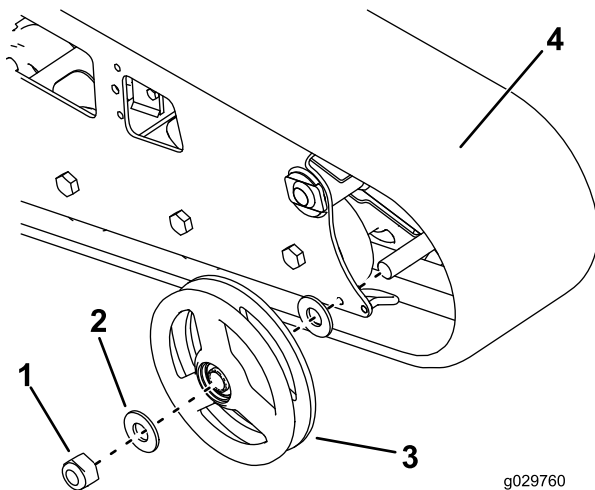

Figure 55
2. Remove the nut securing the outer front wheel and remove the wheel (Figure 55).
3. Remove the track (Figure 55).
4. Pull the 2 large washers out of the outer wheels, 1 on each side of each wheel (Figure 55).
7. Install the new track. (Figure 55).
8. Install the outer front wheel and secure it with the nut removed previously (Figure 55).